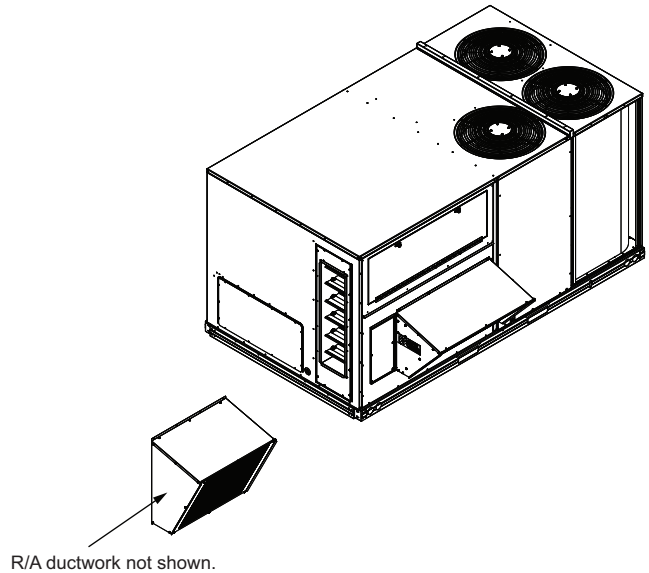

Fig. 13 — Attach Barometric Relief Damper Hood Assembly to Return Duct
25. For CRECOMZR112A00 horizontal ultra low leak units only: Install provided barometric relief hood on field-installed R/A duct ensuring it is water tight. (See Fig. 13.)